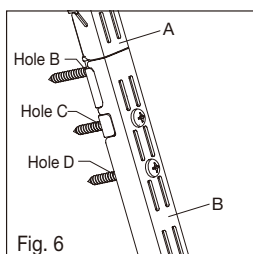

Fig. 6
- ☐ Put the lower vertical rail (B) as shown and secure the lower vertical rail (B) on the hole C and D with panhead screw (#12 x 2 in.) (see Fig. 6).